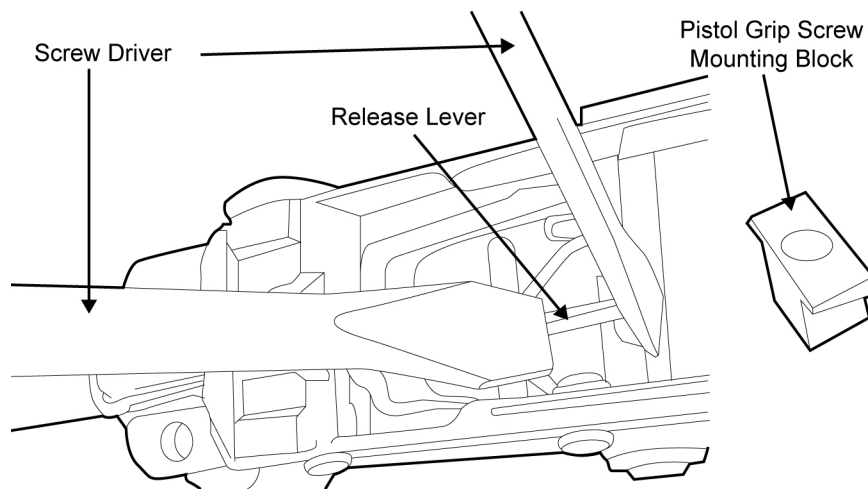

Figure 35. Depressing the Release Lever (with the Left Screwdriver) and Pushing It to the Rear (with the Right Screwdriver).
- b. Place receiver in a vise or between the legs. Depress the release lever with a screwdriver. Using another screwdriver, push the release lever to the rear to access and remove the pistol grip screw mounting block from the receiver. Refer to Figure 35.